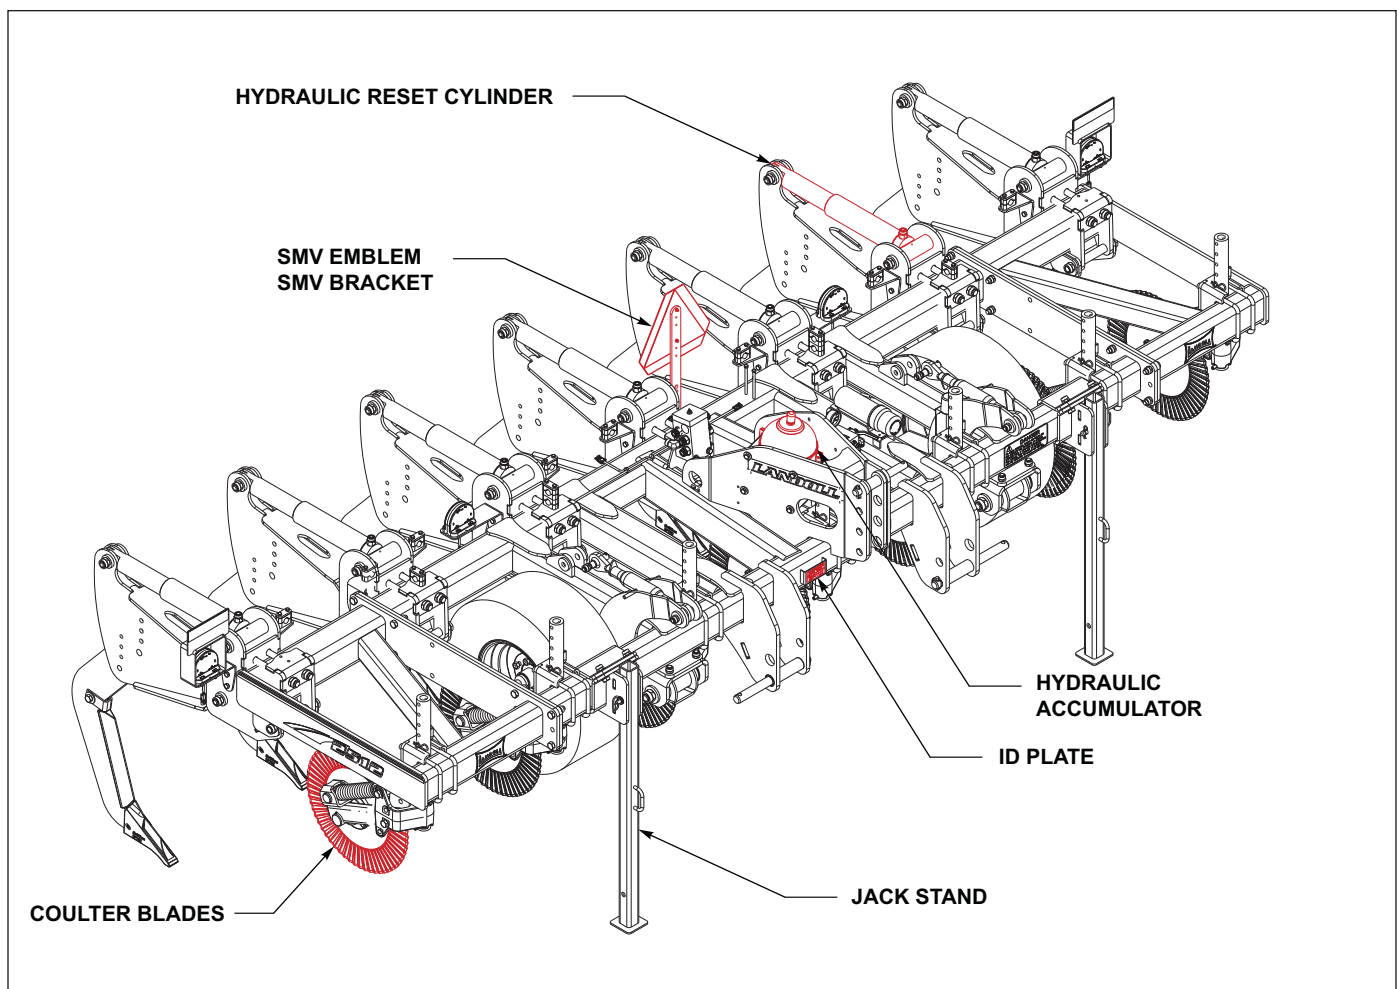

Figure 3-1: 2512 Series Parts Identification
3. Insert jack stand through bottom of outer jack stand tube and pin at desired level with rigid gauge adjustment pin and 3/16 hair pin (See Figure 3-1.)
1. Attach the SMV mounting bracket at a point where emblem is visible from rear of machine, using u-bolt and 5/8-11 flange head serrated nuts (See Figure 3-1.)